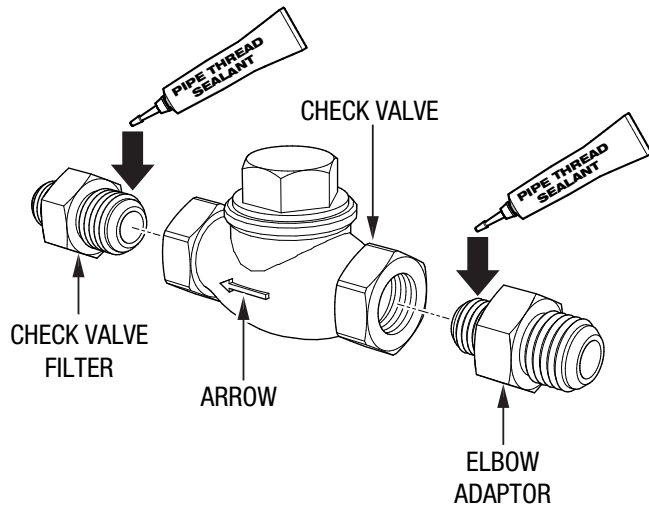

Figure 14. Check Valve Reassembly
8. Look at the check valve and observe the arrow pointing towards one end of the valve (Figure 14). This is the end to which the check valve filter will connect.
9. Apply a small amount of pipe thread sealant to the male threads on the check valve filter (Figure 14).
10. Insert the check valve filter into the check valve (arrow end) and tighten securely (Figure 14).
11. Apply a small amount of pipe thread sealant to the male threads on one end of the elbow adaptor (Figure 14).
12. Insert the elbow adaptor into the open end of the check valve and tighten securely (Figure 14).